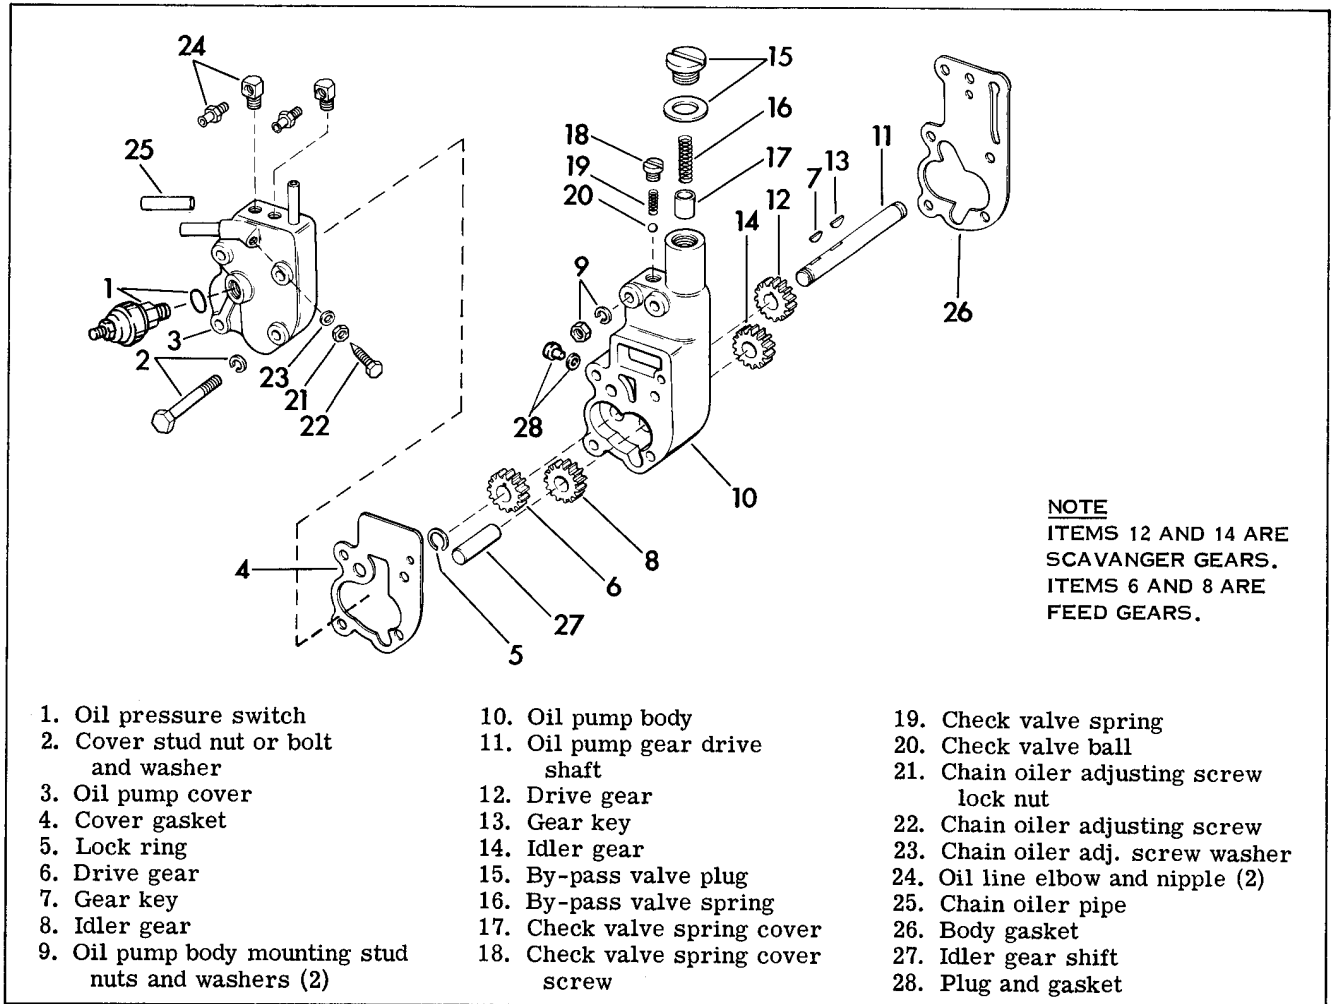

Figure 3-22. Oil Pump - Exploded View
#### DISASSEMBLING (Figure 3-22)
Disconnect oil lines and oil pressure switch (1) from pump. See Figure 3-22. Remove bolts and lock washers (2) from gearcase studs, that hold oil pump cover in place. Remove oil pump cover (3) and gasket (4). Remove lock ring (5), drive gear (6), gear key (7) and idler gear (8). Remove two oil pump body mounting stud nuts (9) and slip pump body (10) off studs and gear drive shaft
(11). Remove drive gear (12), key (13), and idler gear (14).